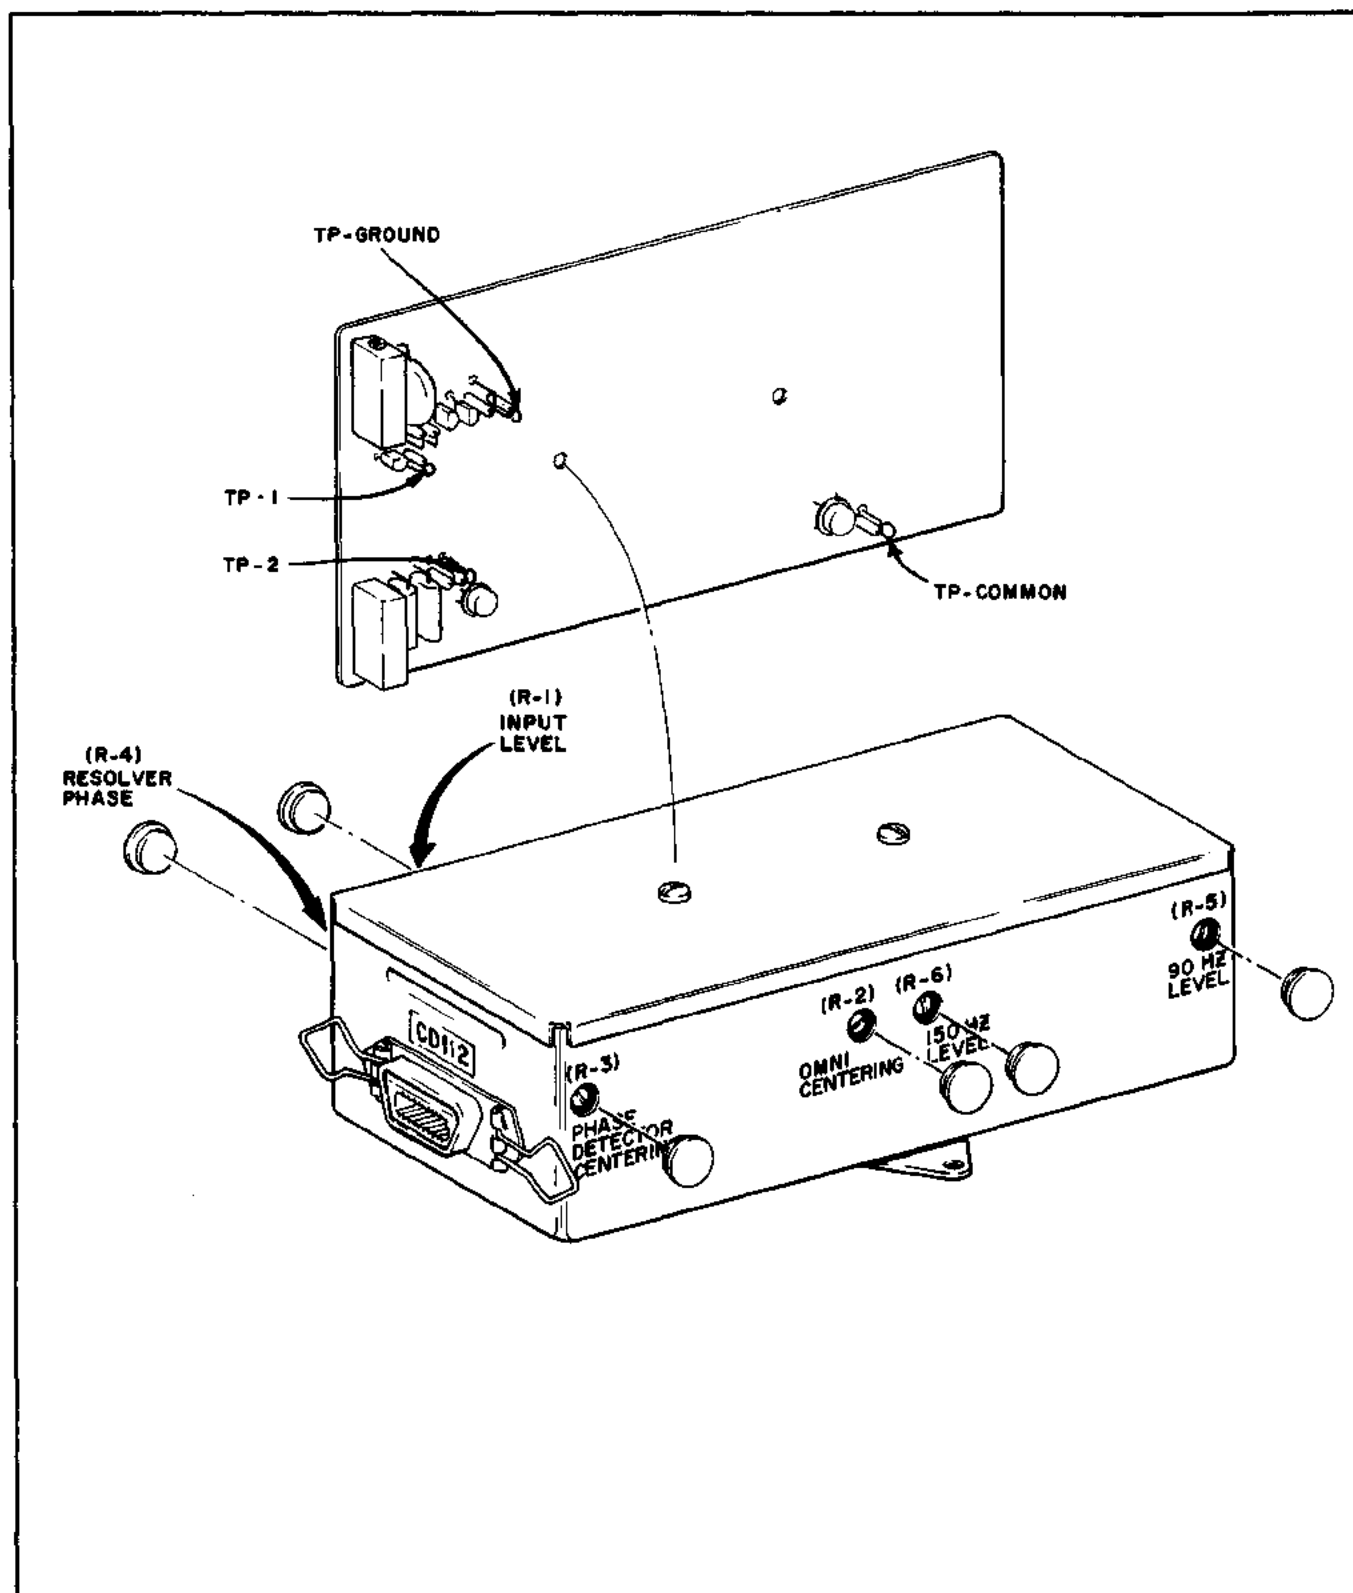

Figure 5-8. NAV Converter (IC707) Adjustment Potentiometers
- a. 1C707 OMNI/LOCALIZER CONVERTER SET UP PROCEDURE. (Refer to Figure 5-8.)
5. With a standard VOR signal applied adjust R-1 VOR receiver (input level) for 4.0 VP-P or 1.41 VRMS at Test Point 1. See Figure 5-8. (See Note)
6. Check for 4 VP-P or 1.41 VRMS  $\pm$  15% at Test Point 2. See Figure 5-8. (See Note)